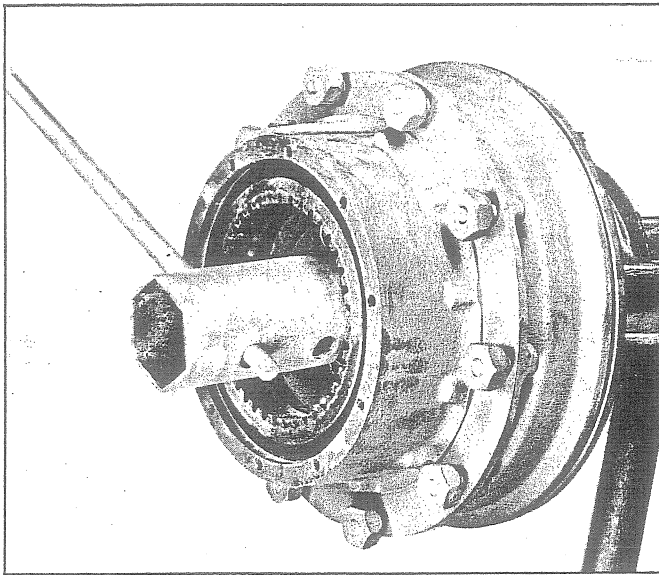

Fig. 6 - Removing or Installing Spindle Nuts
6. Use special tool, as shown in Fig. 6 and remove the nuts from the spindle.
5. Install flatwasher and inner nut. Tighten inner nut as shown in Fig. 6 while rotating the hub until there is a slight drag.